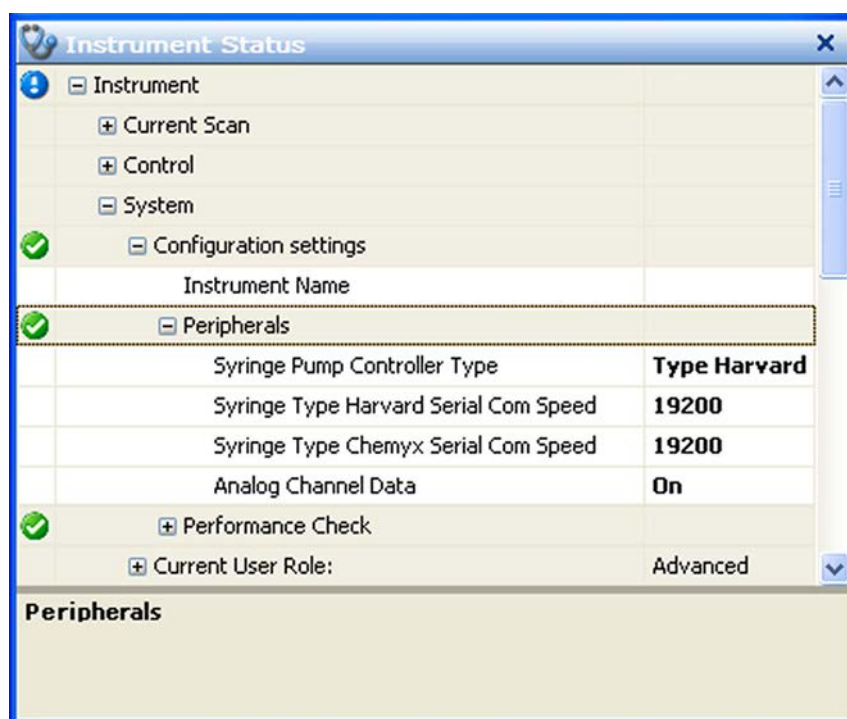

Figure 5-11. Instrument status window—Peripherals node
2. In the instrument status window, click **Instrument > System > Configuration settings > Peripherals**. The Peripherals node displays parameters for the syringe pump. See Figure 5-11.